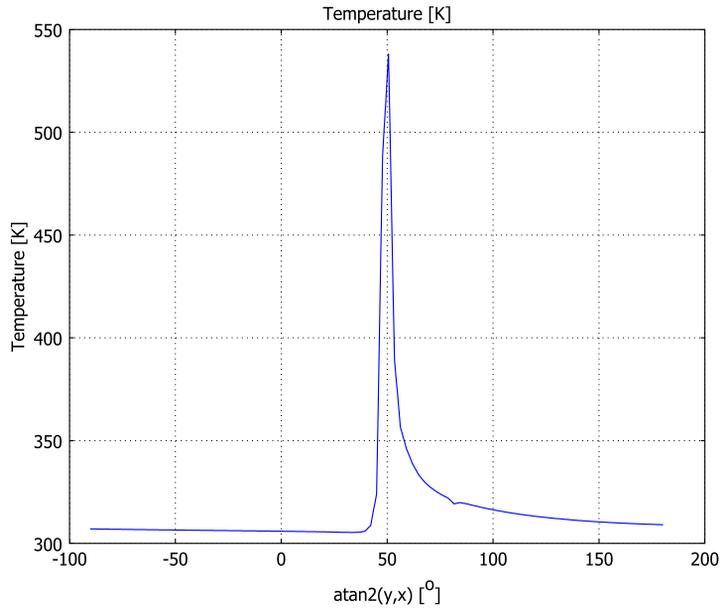

Figure 8-5: Temperature distribution along the laser-beam incident trajectory on the top surface after 0.7 s.
A better way to study these effects is by plotting the temperature at the top surface along the circular laser-beam incident pattern as in Figure 8-5.
- 6 On the **General** page, pick a time from the **Solutions to use** list (the plot in Figure 8-5 corresponds to the selection **0.7**).